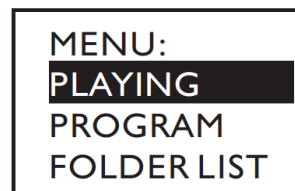
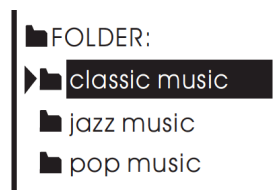

Fig 2
Fig 3
b- Inserted the USB key, the USB player starts to search the songs in USB key, and the display shows "Searching". At the end of the search, the display will show as Fig. 2. Using 7 PRE / 8 NEXT keys, you can select one of following three menu options ("Playing", "Program" and "Folder List"). Press Playing, the unit will enter into the corresponding operation mode.
1). In Fig 2, selecting the Playing mode to recall following interface. This display shows the name of all the folders containing MP3 files. Using the 7 PRE / 8 NEXT keys, you can scan the folders, then press 12 PLAY/ PAUSE key, you will open corresponding folders. Press ■ STOP to return to Fig 2 interface.
2). After opening the folder, the display will show as Fig 3. This display shows MP3 file list, and scrolling list using 7 PRE / 8 NEXT keys you can choose the desired song. Press the 12 PLAY/ PAUSE key, the selected song playback will start. In order to stop playback, you just need to press the ■ STOP key. Then, if you press the 12 PLAY/ PAUSE key, the song playback will start from the pause point, if you press again the stop key, the system will return to Fig 3 interface.
1). In Fig 2, select "Program" to enter into the following interface: "Play list Set ": Set the playing list."Playing List": Play list. Press 7 PRE / 8 NEXT key to select, press ■ STOP key to return the Fig2 interface.
2). After entering into the "Play List Set", the display will show as Fig3. Selecting the desired folder, the display will show the following interface. The display will show all the MP3 files, the selected song will be inserted into the playing list and a mark will appear. Press again you're going to delete the song from the playing list, and the mark will disappear. Press the ■ STOP key, you will return to Fig 2 interface. The playing list can accept up to 20 songs, and it will display the list according to song insert order.
3). The display will show the following interface. Press the 7 PRE / 8 NEXT key, you can select the starting song, then press the 12 PLAY/ PAUSE key, the selected song playback will start. Press 12 PLAY/ PAUSE key again, or press ■ STOP key, the play back will stop. Press 12 PLAY/ PAUSE key again, or press ■ STOP key, the playback will start again from the same point. Twice press ■ STOP, the USB player will return to Fig 3 interface.
See the Fig 3, the display shows MP3 files folders names. Use 7 PRE / 8 NEXT key to scan, press 12 PLAY/ PAUSE key, you'll enter into corresponding folder. In order to return to Fig5 interface, you just need to press the ■ STOP key.